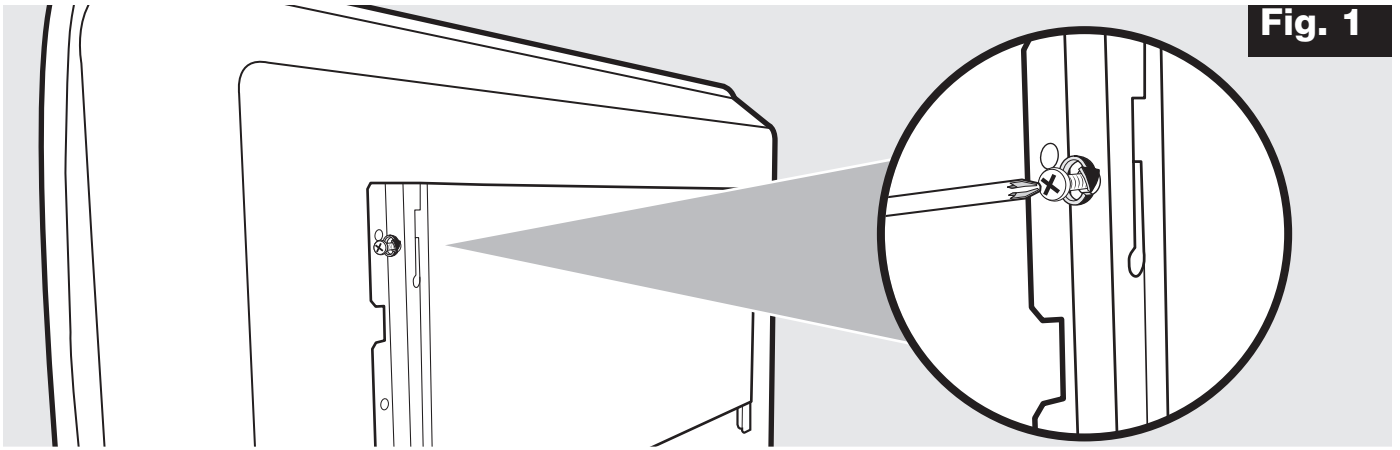

Fig. 1
1. Remove wall mounting plate from the back of the heater by firstly removing the M4x20 screw with a Pozi Head No.2 screwdriver see **Fig 1**.